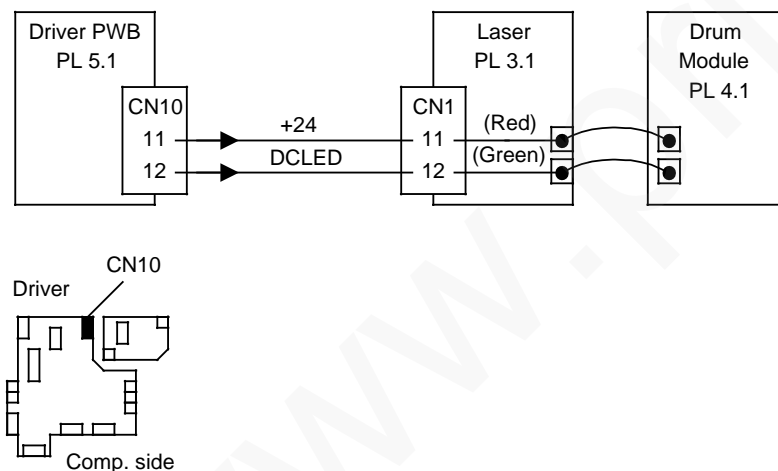

Figure 1. Discharge Lamp and Drum Sensing
9. Check the discharge LED power signals. (Figure 1)